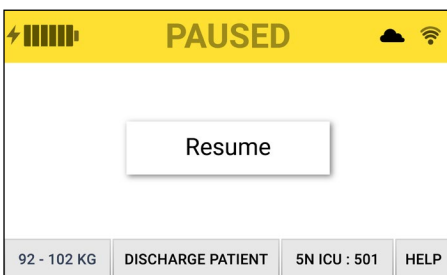

Figure 16. Paused - Procedure Table (standard)
2. A Paused screen (no timer) will display with a yellow status bar. (Fig. 16 & 17)
3. Controller operation will be Paused indefinitely until the user re-starts therapy. Press "Resume" to re-start therapy at any time. (Fig. 16 & 17)